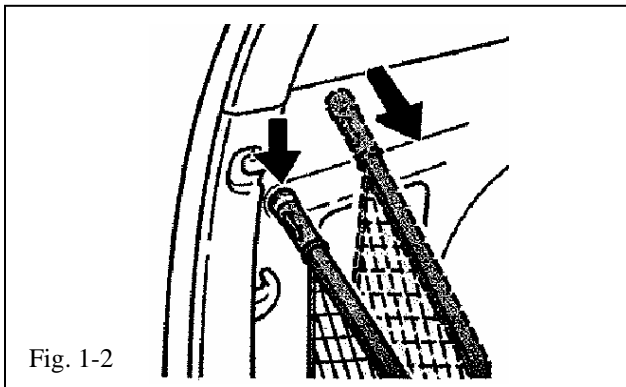

Fig. 1-2
- (c) Depress left end. (Fig. 1-2)